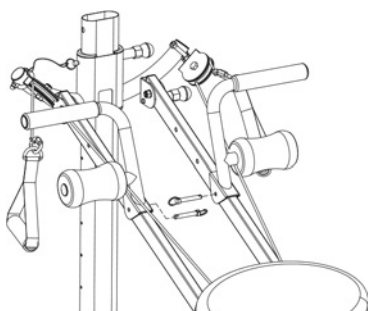

Fig. 3
3. Insert the 2 Short Hitch Pins through the holes on the Multi-Function Attachment Brackets and the hole on the Rails, as shown in Fig. 3.